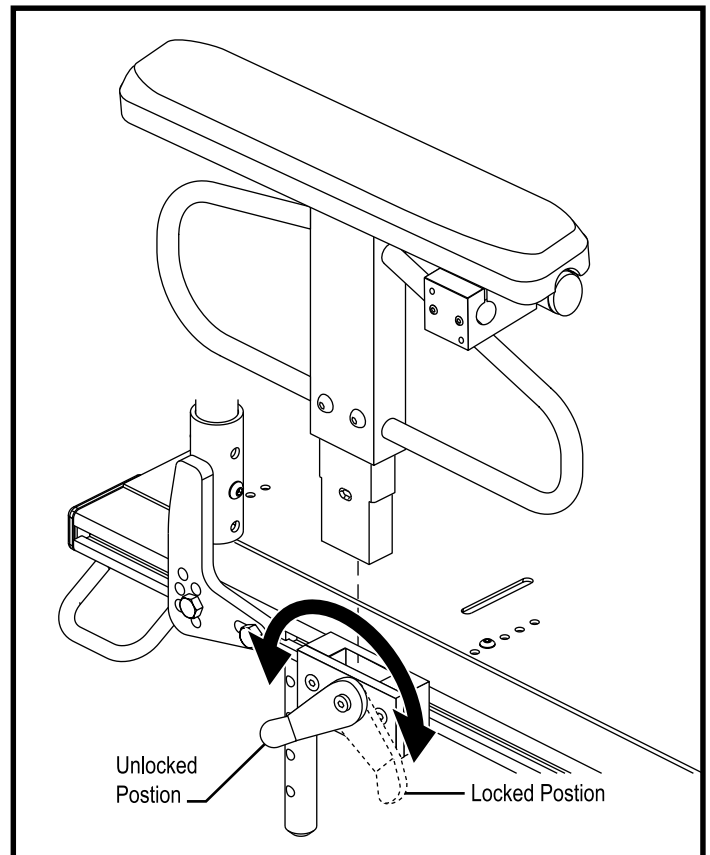

Figure 10. Armrest Removal
5. Install the armrests (if necessary). See figure 10.
1. Rotate the armrest lock lever rearward. See figure 10.
1. Place the armrest assembly into the armrest lock. See figure 10.